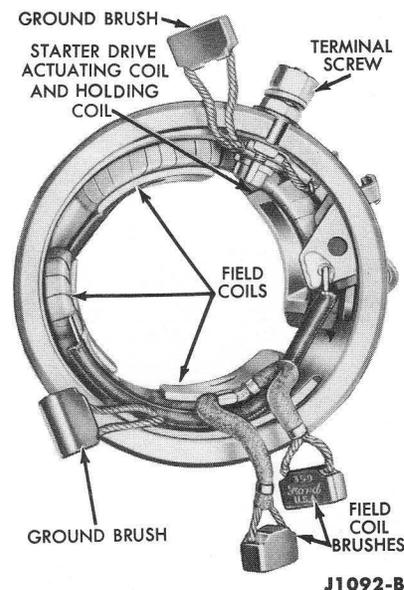

FIG. 13—Field Coil Assembly
1. Install the starter terminal, insulator, washers, and retaining nut in the frame (Fig. 13). Be sure to position the slot in the screw perpendicular to the frame end surface.